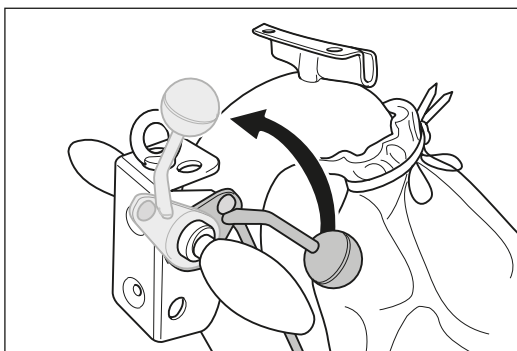

Fig. 44 Lift the sanding drum off the floor by turning the lowering lever at the handle upwards.
- 1 Lift the sanding drum off the floor by turning the lowering lever at the handle upwards (fig. 44).